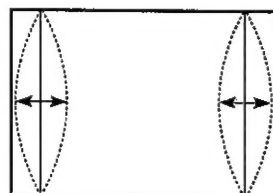

Fig. 4
- Adjust the E-W PARABOLA to obtain condition as in fig. 4.